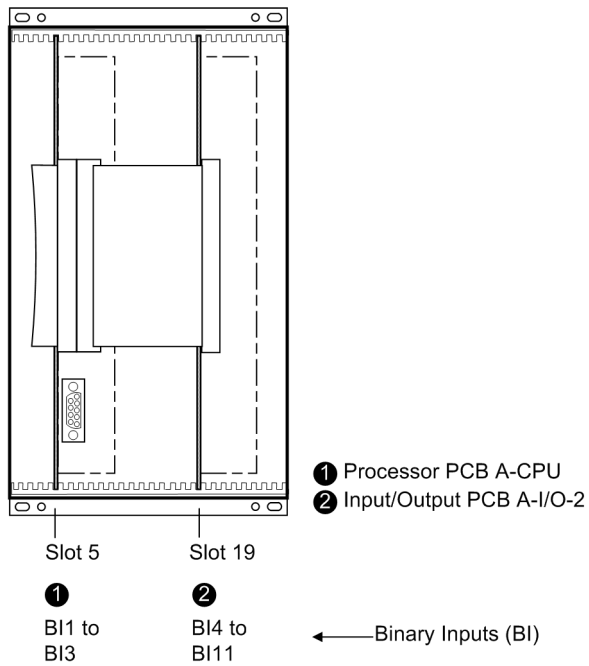

Figure 3-3 Front view of 7SJ62 after removal of the front cover (simplified and scaled down)
- Disconnect the ribbon cable between the front cover and the CPU board (No. 1 in Figures 3-3 and 3-8) at the front cover side. Press the top latch of the plug connector up and the bottom latch down so that the plug connector of the ribbon cable is pressed out. This action does not apply to the device version with detached operator panel. However, on the central processor unit CPU (No. 1) the 7-pole plug connector X16 behind the D-subminiature connector and the plug connector of the ribbon cable (connected to the 68-pole plug connector on the rear side) must be removed.
The arrangement of modules for device types and housing sizes are shown in Figures 3-3 to 3-8.